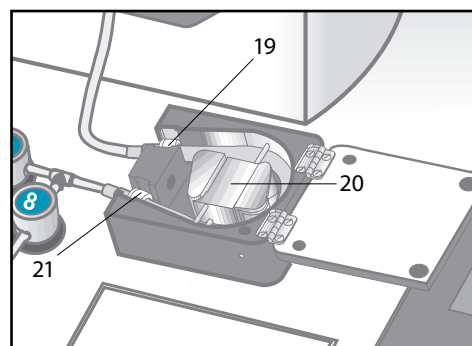

Figure 37: Loading of pump tubing.
2. Insert the upper retaining ring on the pump tubing into the retaining ring groove (19) on the pump housing (see fig. 37).
3. Rotate the pump roller clockwise (20, fig. 37) until the tubing is threaded between both sets of the tubing guide pins and the tubing fits snugly around the pump roller. Ensure the tubing is not pinched at the end of the guide pins (If adjustment of the tubing inside the pump is necessary, the tubing can be unloaded by lifting the lower ending and turning the pump roller anti-clockwise.).
4. Insert the lower retaining ring on the pump tubing into the retaining ring groove (21, fig. 37) on the pump housing.